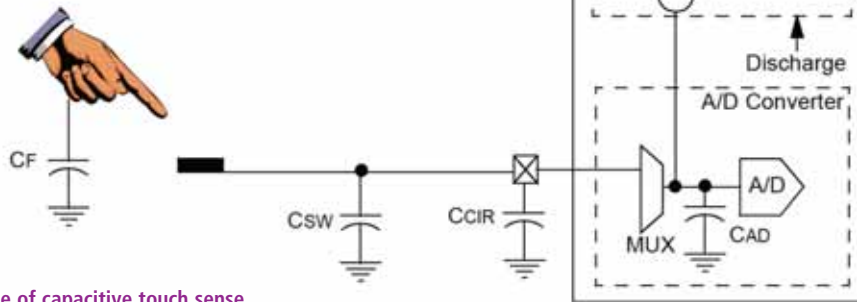

Figure 2: Basic principle of capacitive touch sense
From the basic equation for capacitance, $I = C dv/dt$, when the current and time are constant, the voltage $V = I * t/C$ varies inversely with the capacitor value. In a relative capacitance measurement application, such as capacitive touch sensing, when a finger touches a capacitive touch pad, the capacitance increases, thus decreasing the voltage charged. As an example, take a simple touch application (shown in Figure 2) with a total capacitance – including parasitics, like the switch (CSW) and circuit (CCIR) of 30pF. When the external circuit is charged with a current of 5.5μA for 10μs, this produces a voltage of 1.83V. When you add the touch of a finger, an additional capacitance (CF) of up to 10pF is added. The exact amount of capacitance depends on how much the touch pad is covered by the finger and any covering material over the pad. For a 10pF change, with the same current and charge time, the voltage is 1.38V. The voltage is measured at frequent intervals by the microcontroller's A/D converter. Changes (particularly decreases) can then be interpreted as a touch event.